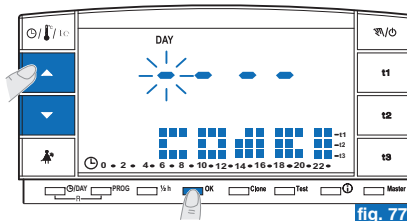

fig. 77
- A **COD E II** message and the first hyphen to the left will blink on the display (fig. 77); enter the new password with keys $\blacktriangle$ and $\blacktriangledown$, then press **OK** to confirm each entered value (example in fig. 78).
- When a **COD E II** message appears on the display, enter 4 hyphens as the password (- - - -) and confirm each "hyphen" by pressing **OK** (fig. 77).